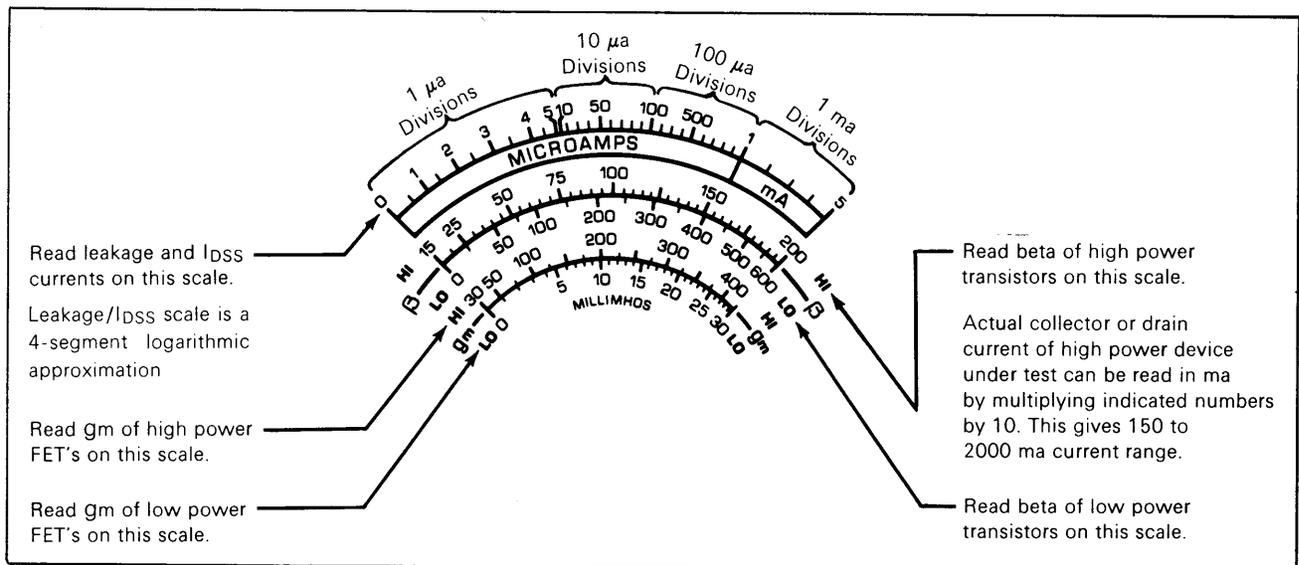

Fig. 2. Leakage/gain meter scales.
6. In performing beta and Gm tests of transistors and FET's, it is possible to determine the collector or drain current for power devices under the test conditions, by reference to LEAKAGE/GAIN meter. The HI power beta scale is proportional to the amount of collector current (for transistors) or drain current (for FET's) under test. The 0-200 scale of the HI range can be converted to actual milliamperes by a multiplication of ten. In other words, the full scale reading of 200 corresponds to 2000 milliamperes, or 2 amps. Refer to Fig. 2 under "CONTROLS AND INDICATORS" for detailed LEAKAGE/GAIN meter scale details.
Indicator for all out-of-circuit leakage and gain measurements. (See Fig. 2.)